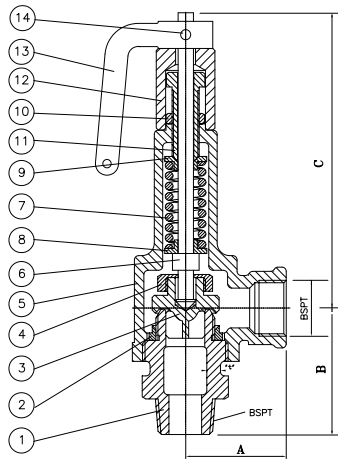

Figure 1: Forbes Marshall Safety Relieve Valve
Dimensions: (approx.) in mm (Refer to Figure 1)
4. Product Working Principle : (Refer to Figure 1)
6.2 Safety relief valve setting : (Refer to Figure 1)
7.3 Maintenance/Replacement Procedure : (Refer to Figure 1)